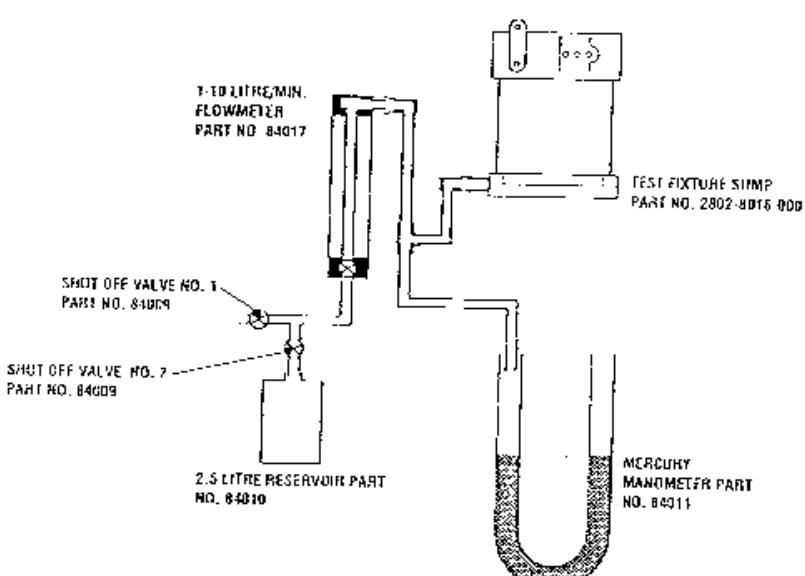

Fig. 3.23 Leak Test - Keyed Filter Assembly
1. Set up the test equipment as shown in Fig. 3.23
2. Attach the keyed filler assembly to the test fixture sump, Part No. 2802-8016-000, using two screws (158), one screw (178) and the hexagon socket button head screw (183). Torque tighten the screws (159) and (170) to 2 Nm then torque tighten the four screws (158), (178) and (183) to 2 Nm. Ensure that the keyed filler valve is in its fully closed position.